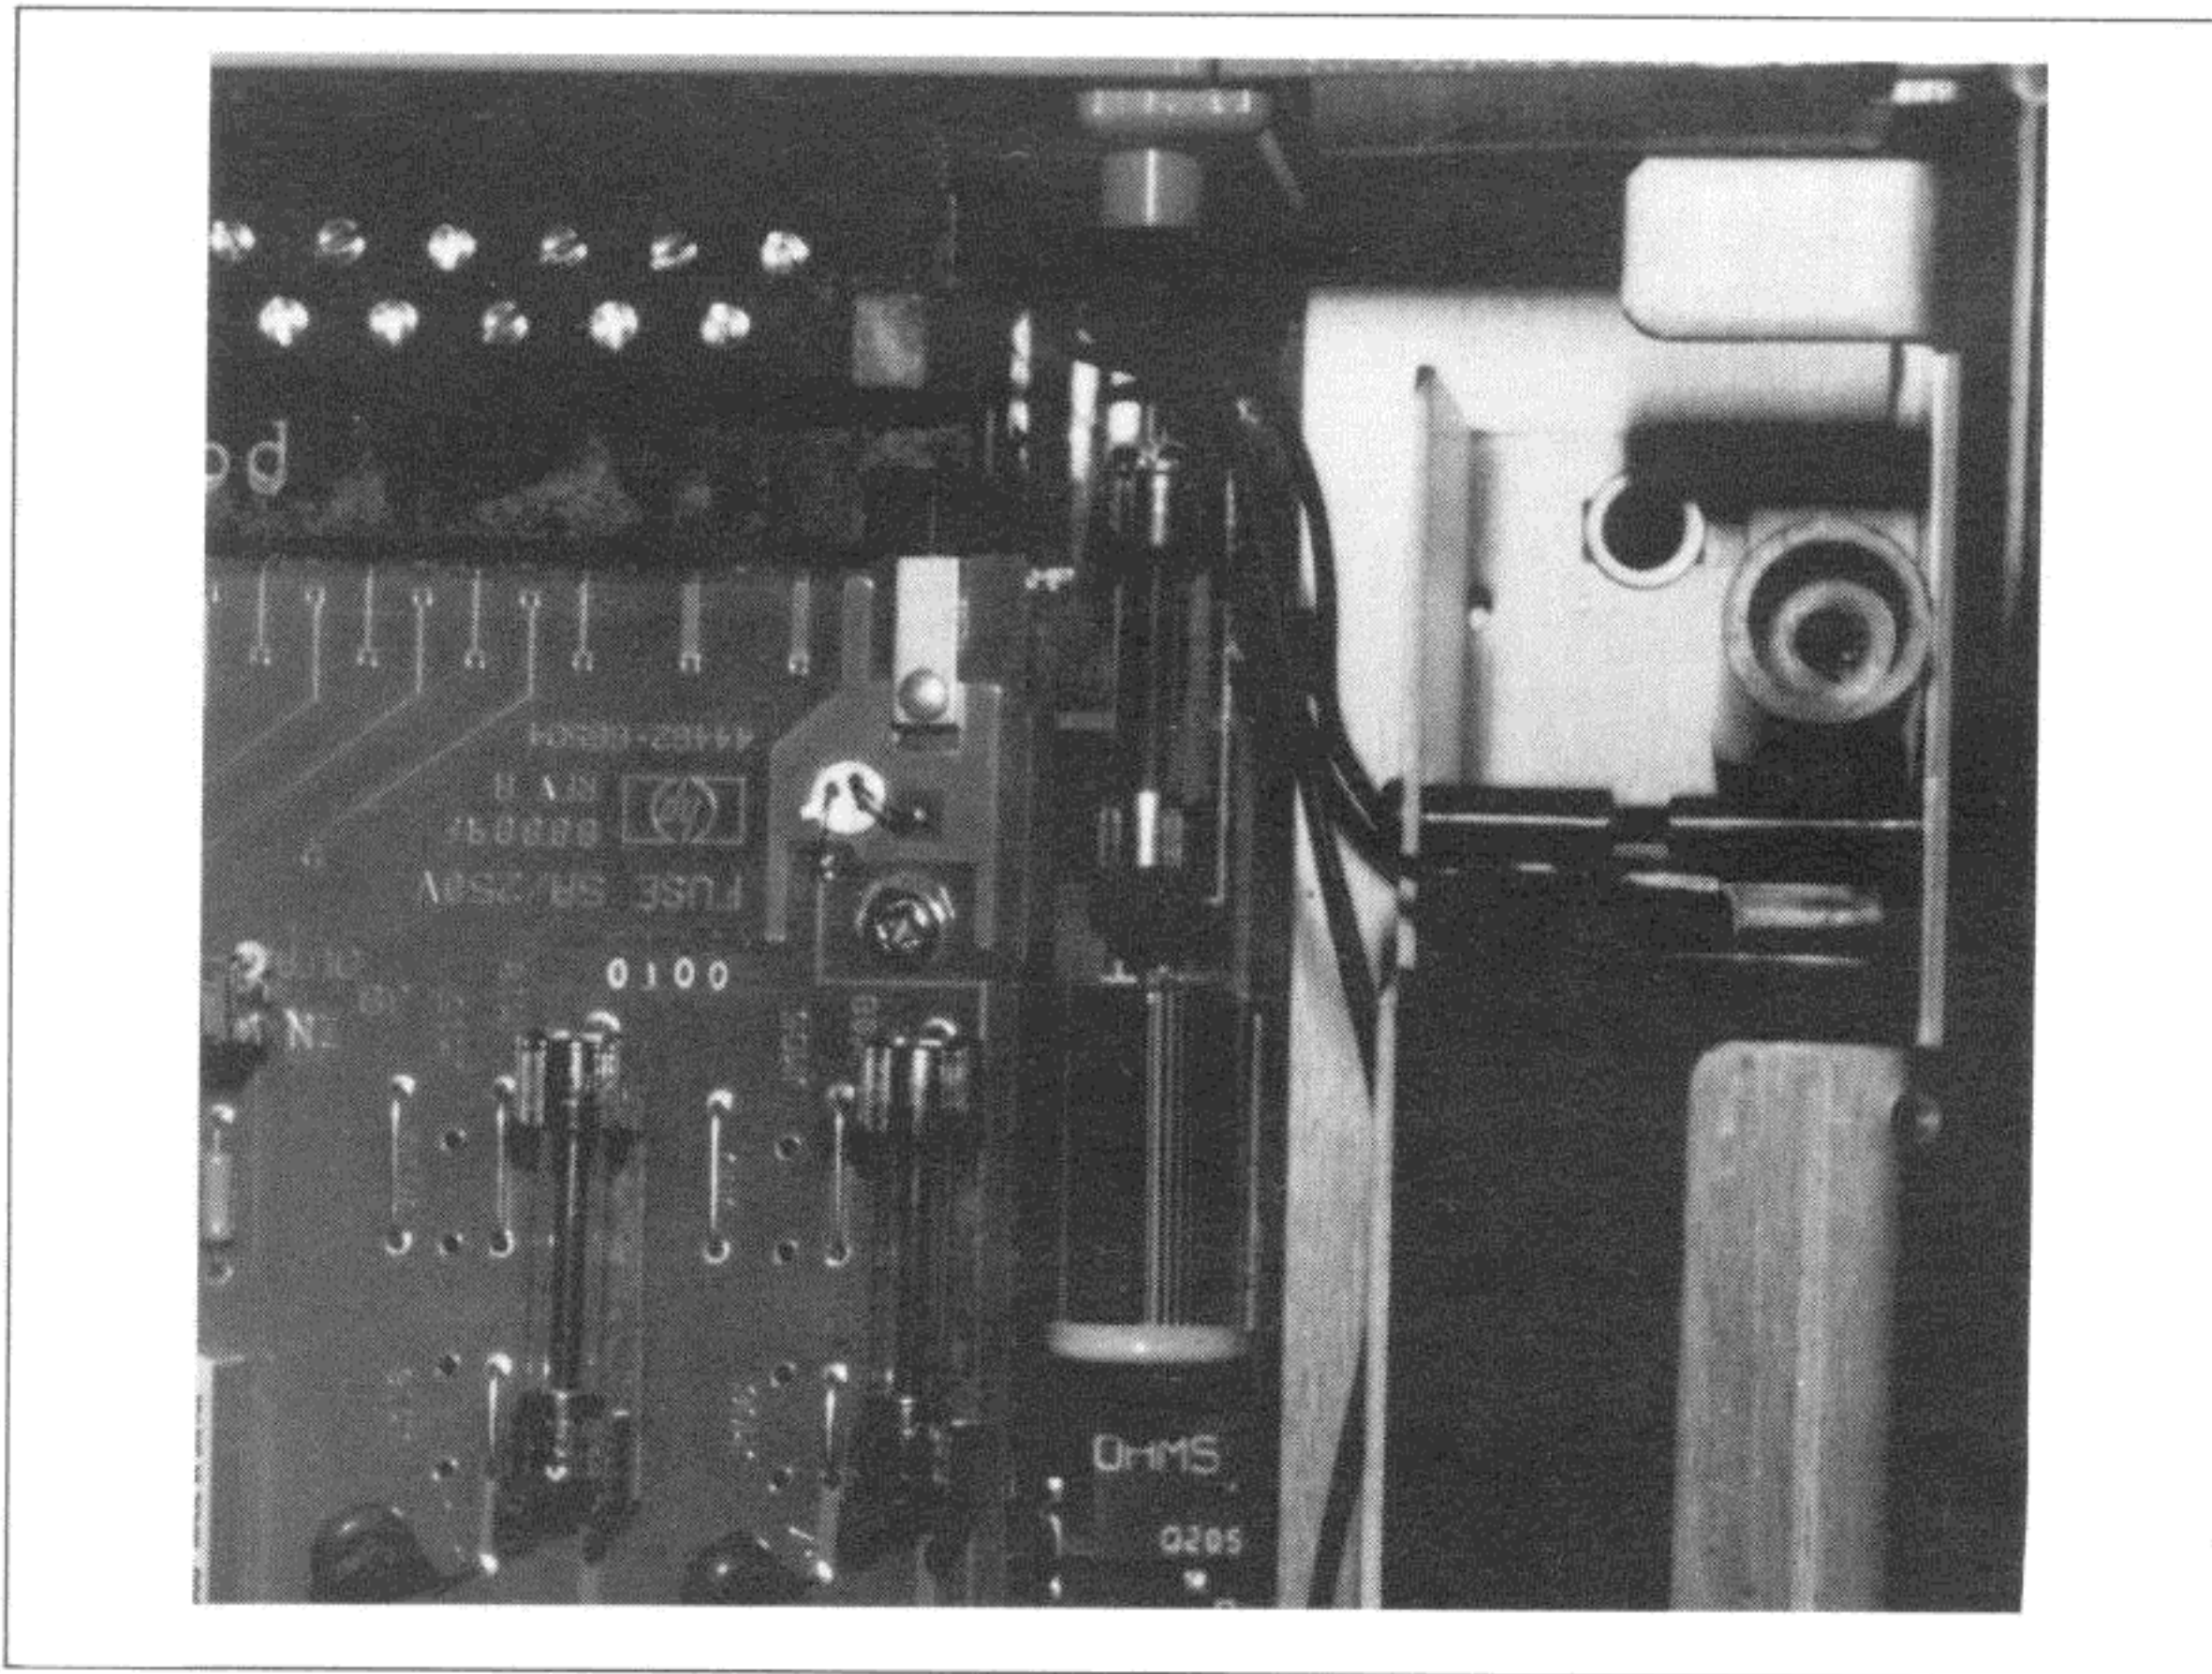

Figure 2-2-3. Remove Main Battery Fuse
- e. Refer to Figure 2-2-3 and locate the battery fuse toward the right rear of the instrument. Remove it from its socket. Instead of removing the fuse, you can unplug the red wire from the battery. If this is done, make sure the wire is placed out of the way and away from the battery.